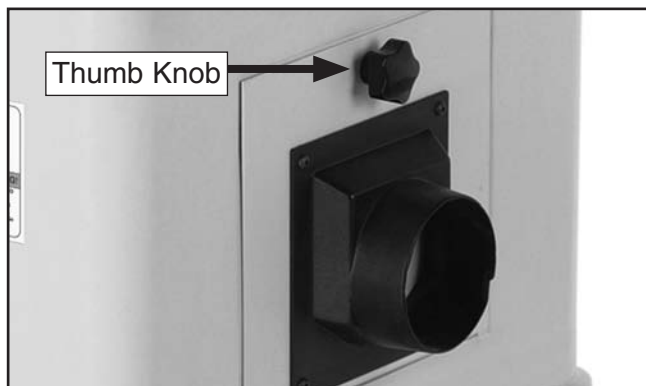

Figure 15. Dust port installed.
5. Insert the lip of the lower part of the dust port into the cabinet and tighten the thumb knob (already installed) to secure (see **Figure 15**).